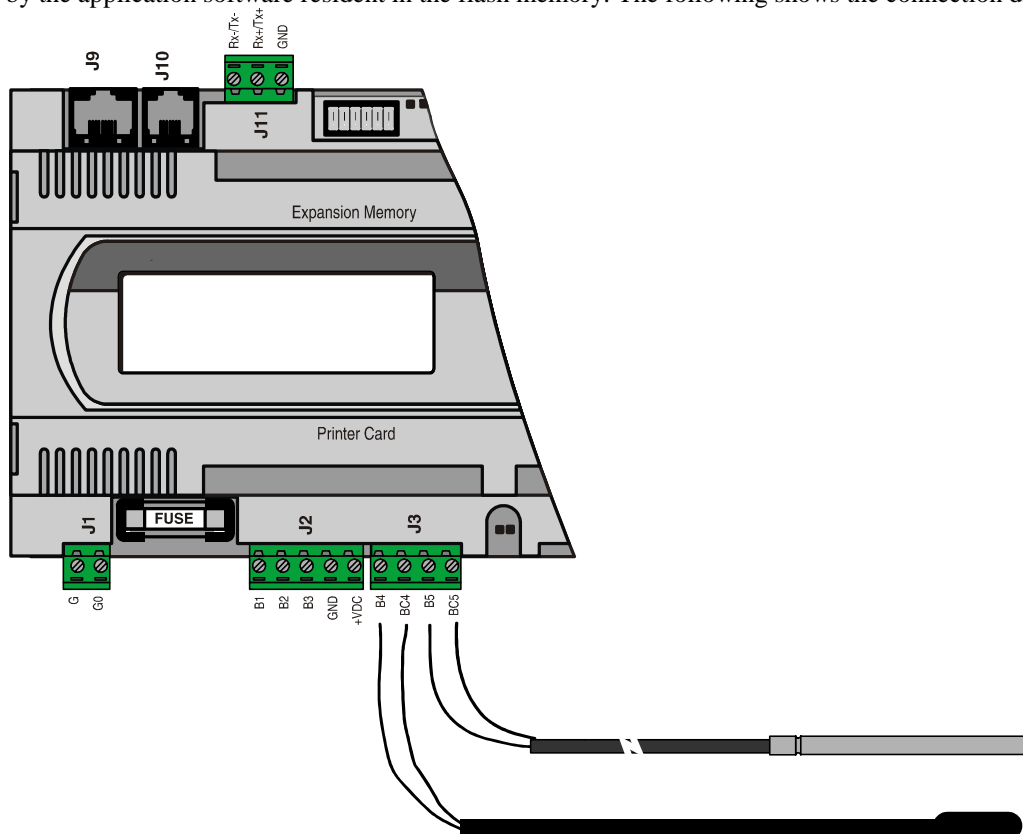

Fig. 4.4.3.1
- In order to get a correct measurement from the PT1000 probe it is necessary to connect each probe lead to one single terminal as shown in fig. 4.4.3.1;